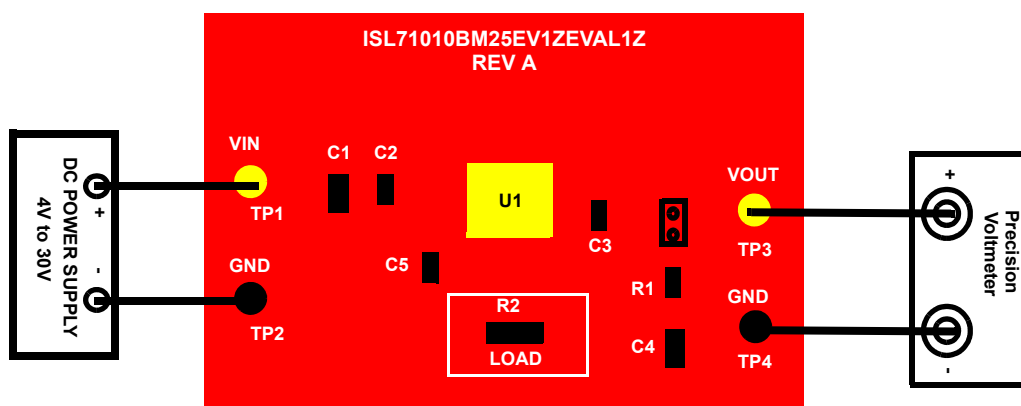

Figure 2. Basic Evaluation Test Setup Block Diagram (Measuring Voltage Reference VOUT)
- (1) Gather the external supply and equipment needed to operate the board:
- (2) Attach the evaluation board to a DC power supply at test points TP1 and TP2 labeled VIN and GND as shown in Figure 2. Place the positive terminal at VIN (TP1) and the negative terminal at GND. The supply should be capable of delivering 4V to 30V of power and 100mA of current.
- (3) Connect a precision voltmeter at test points TP3 and TP4 labeled VOUT and GND as shown in Figure 2.
- (4) Set the supply voltage to 5V.
- (5) Turn the DC power supply ON. The voltmeter should read $2.5V \pm 0.05\%$.
- (6) Change the DC power supply voltage to 10V. The voltmeter should continue to read 2.5V.
- (7) Vary the DC power supply voltage over the range of 4V to 30V. The voltmeter should continue to read 2.5V.
- (8) Performance at different resistive loads can be evaluated by changing R2 with different resistor values.